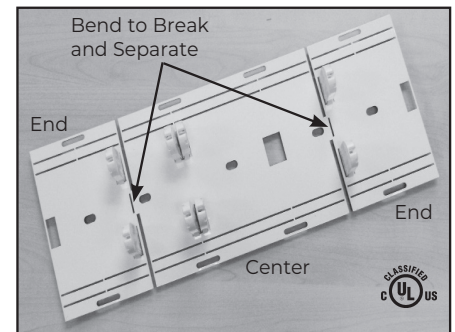

Figure 1: Preparing the RetroFit Socket Plate for Installation.
5. For 8-foot "strip-light" luminaires the Fixture Bracket Kit Socket Plates are divided into three (3) sections; two (2) end sections and one (1) center section. Bend the end and center sections on the socket plates back and forth until they separate. Follow this same procedure for the opposite end of the center section. See Figure 1.